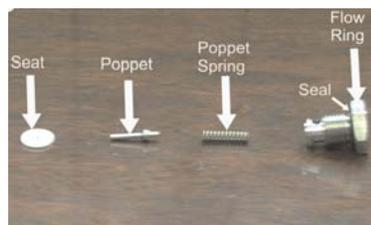

Figure 7
- 3.2.22 Remove the poppet spring (Part 8) and the poppet (Part 10) (also see Figure 7).